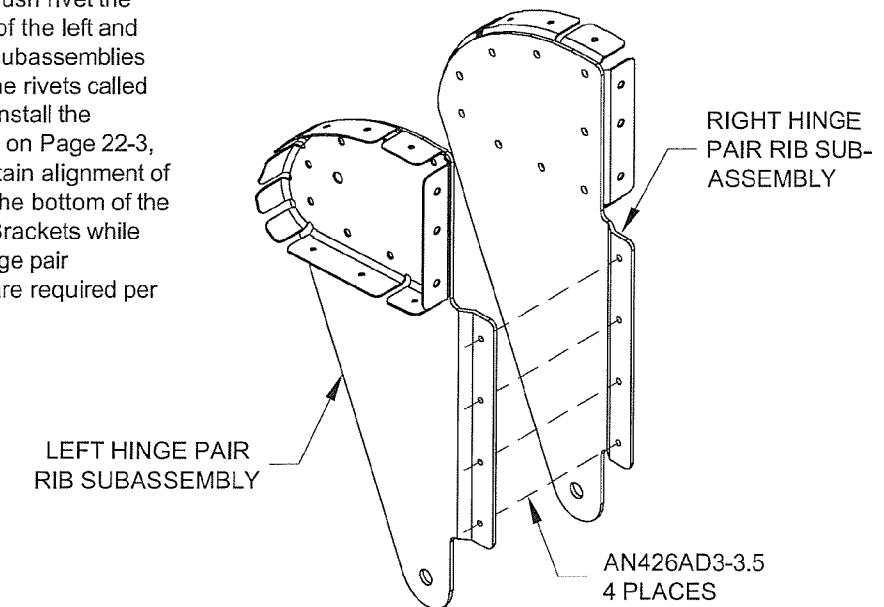
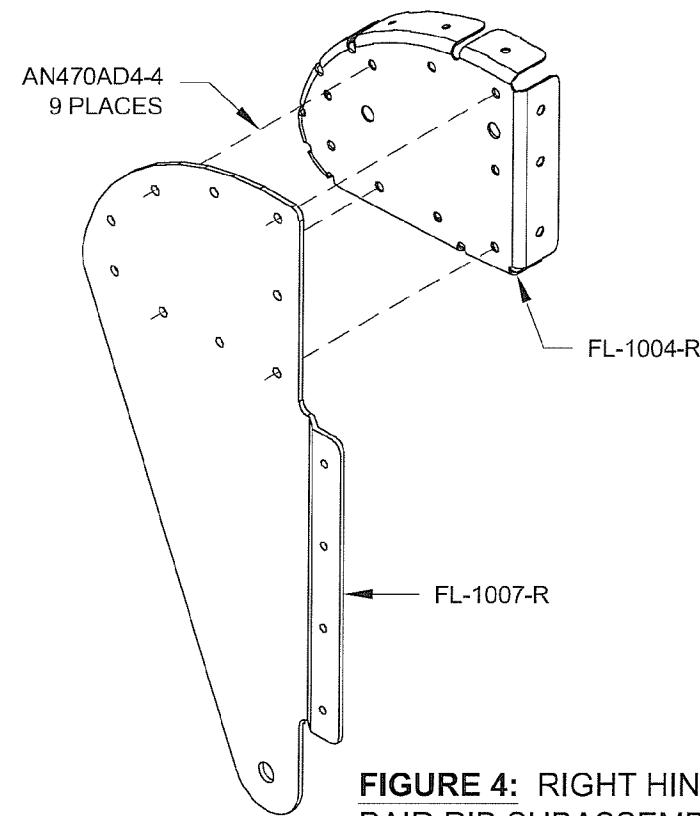

FIGURE 5: HINGE PAIR SUBASSEMBLY
FIGURE 4: RIGHT HINGE PAIR RIB SUBASSEMBLY
Step 5: Double flush rivet the joggled flanges of the left and right hinge pair subassemblies together using the rivets called out in Figure 5. Install the hardware shown on Page 22-3, Figure 4 to maintain alignment of the 1/4" hole at the bottom of the FL-1007 Hinge Brackets while riveting. Two hinge pair subassemblies are required per flap.
Step 4: Rivet together the two right hinge pair rib subassemblies using the rivets called out in Figure 4.
Step 6: Rivet together the center hinge subassembly using the rivets called out in Figure 6. Double flush rivet the joggled flanges. Install the hardware shown on Page 22-3, Figure 4 to maintain alignment of the 1/4" hole at the bottom of the FL-1007 Hinge Brackets while riveting.